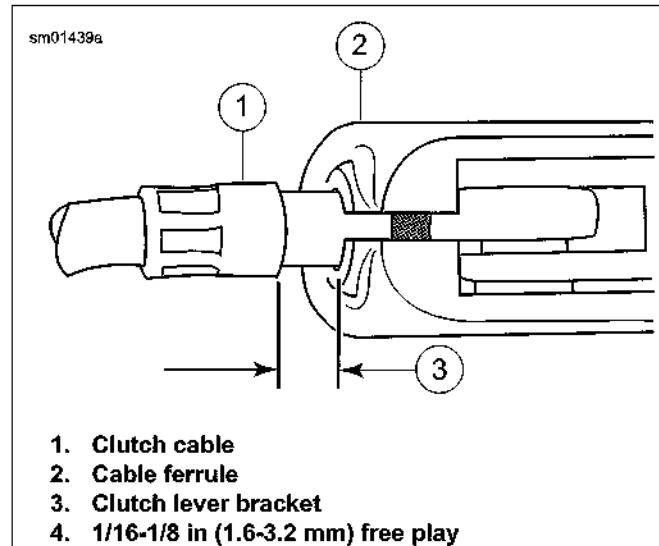

Figure 1-21. Clutch Free Play Adjustment
2. See Figure 1-21. Pull the clutch cable ferrule (2) away from the clutch lever bracket (3) and measure the free play (4).